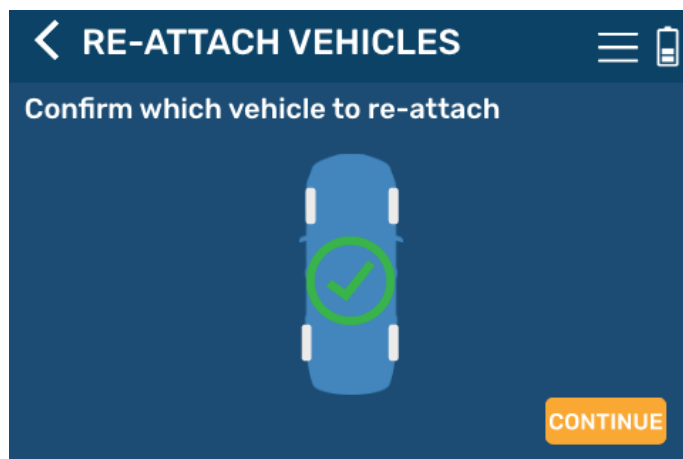

Fig.30
3. Confirm which vehicle to reattach and tap **CONTINUE** (Fig.30).